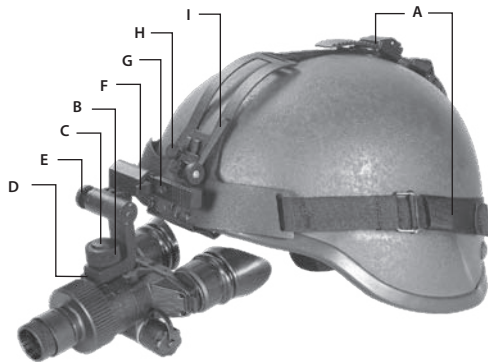

FIGURE 3-3. MOUNTING THE NYX-7 TO A HELMET
1. Attach the mount to the helmet as shown in Figure 3-3.
2. Adjust and tighten the straps (A).
3. Loosen the screw (B). With the button (C) pushed down, insert the Nyx-7 rail into the guide (D) of the helmet mount bracket. Tighten the screw (B).
5. Push the button (F) and move the unit along the slide-rail (G) until the most comfortable position is reached.
6. To adjust the unit for comfort, loosen the screw (B) and move the unit along the guide (D).
7. Turn the lever (I) and move the unit along vertical slide-rail until the most comfortable vertical position is reached.
8. To remove the Nyx-7 and turn it around, push the button (E) and lift the unit up until it reaches the topmost position.
9. Push the same button (E) to lower the Nyx-7 into the proper viewing position.
10. To remove the Nyx-7 from the helmet mount, loosen the screw (B), push down on the button (C), and slide the unit out of the guide (D).
11. To remove the flip-up mechanism from the helmet mount, loosen the lever (I), pull the knob out (H), and slide the flip-up mechanism out of the vertical rail.